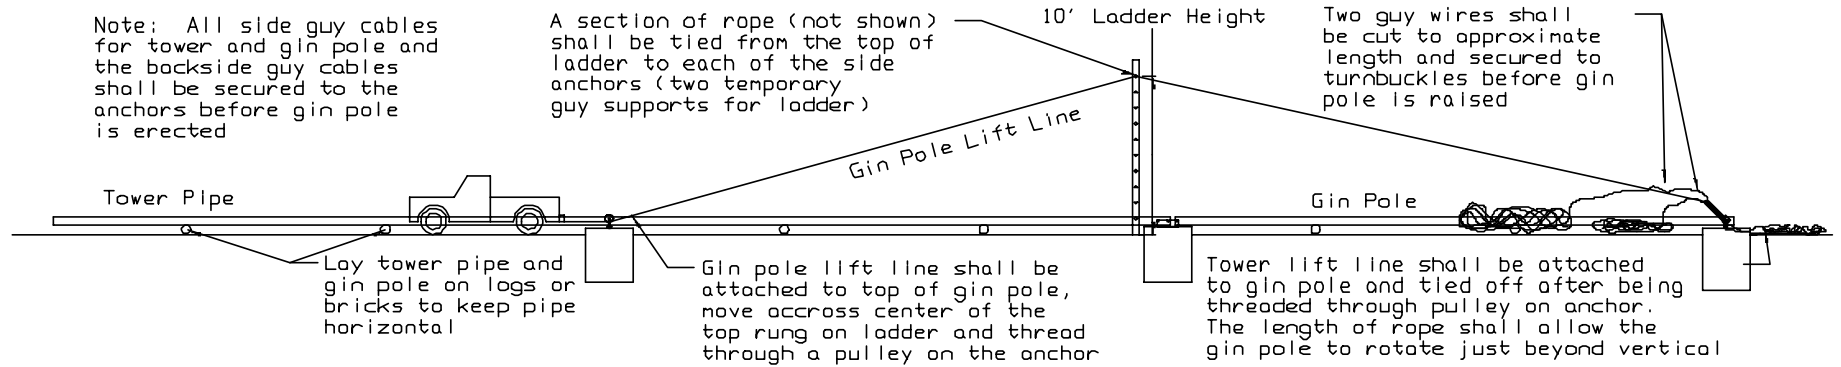

Figure 10
When you finish assembling the gin pole and tower pipe the installation should look like Figure 10. Remember to have on hand wood pieces or bricks to support the pipe sections 7 inches above ground. This is important since you do not want to be moving the tower and lift-pipe sections around. They are very heavy!
2. The first step to raising the tower is to raise the gin pole. The gin pole for the 70' 175 tower weighs over 500 pounds so a secondary gin pole is necessary to raise the gin pole. One option for this secondary gin pole is to use a 10' ladder with a minimum rating of at least 250 pounds (see Figure 10). Do not use a stepladder for this because it must be able to rotate on its base. The ladder should straddle the tower pipe and be located near the tower base. An extension ladder with the proper rating should work just fine. The ladder should be given side-to-side support by tying a rope from the top of the ladder to each of the side anchors. This rope should have a minimum breaking strength of 4000 lbs. These two ropes will prevent the ladder from falling to either side during the gin
4. Connect the gin pole lift line to one of the turnbuckles on the gin pole. The minimum breaking strength for this rope must be 4000 lbs. The gin pole lift rope is then run across the top rung on the ladder before it goes through a pulley connected to the anchor. This pulley must be rated for at least 3000 lbs. The end of this rope should be attached to the bumper on the vehicle raising the gin pole. An alternative to a vehicle is to use an appropriately sized winch connected to the anchor (see Figure 10).